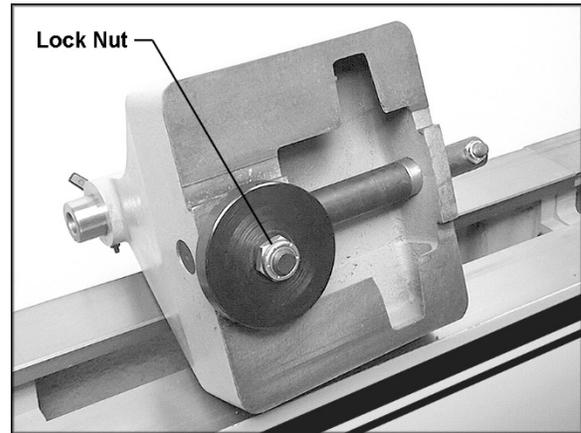

Figure 14
If the headstock, tailstock or tool rest base does not tighten properly down against the lathe bed when the locking handle is tightened, it may need adjusting. Figure 14 uses the tailstock as the example:
2. Turn the tailstock on its side and tighten the lock nut with a wrench. See Figure 14.